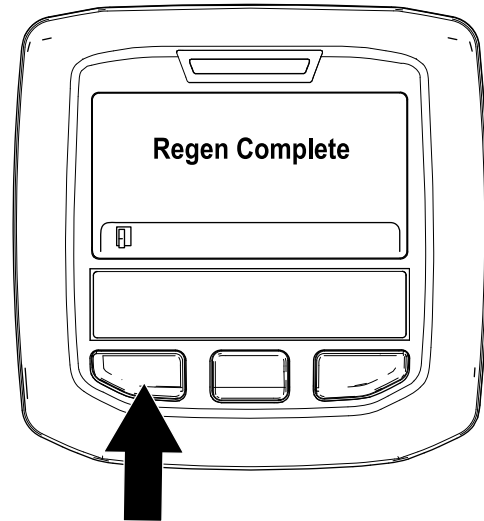

Figure 42
9. The parked regeneration is complete when the "Regen Complete" message displays in the InfoCenter. Press the left button to exit to the home screen (Figure 42).